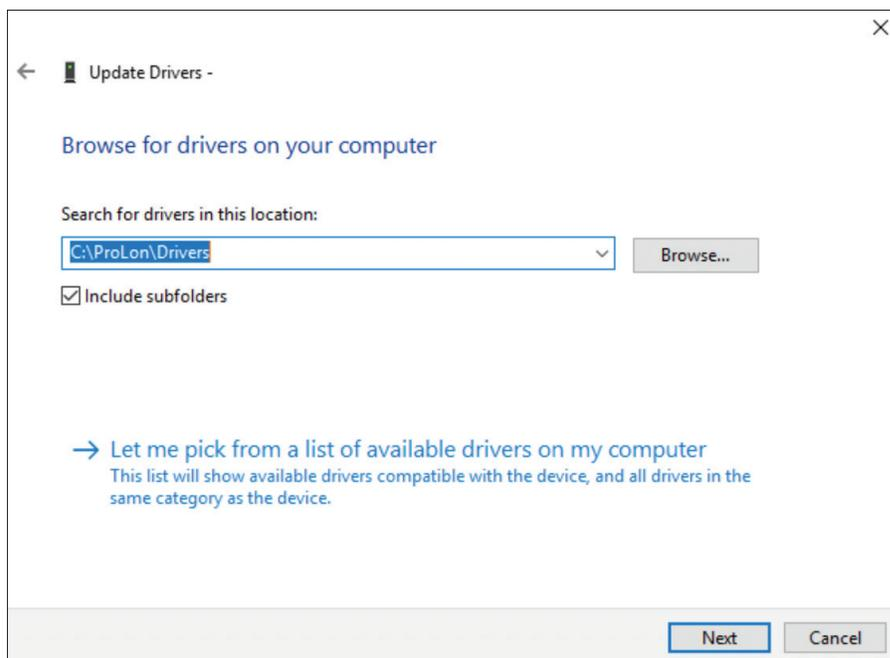

Figure 32
3. The location should point to the driver folder. (Figure 32)